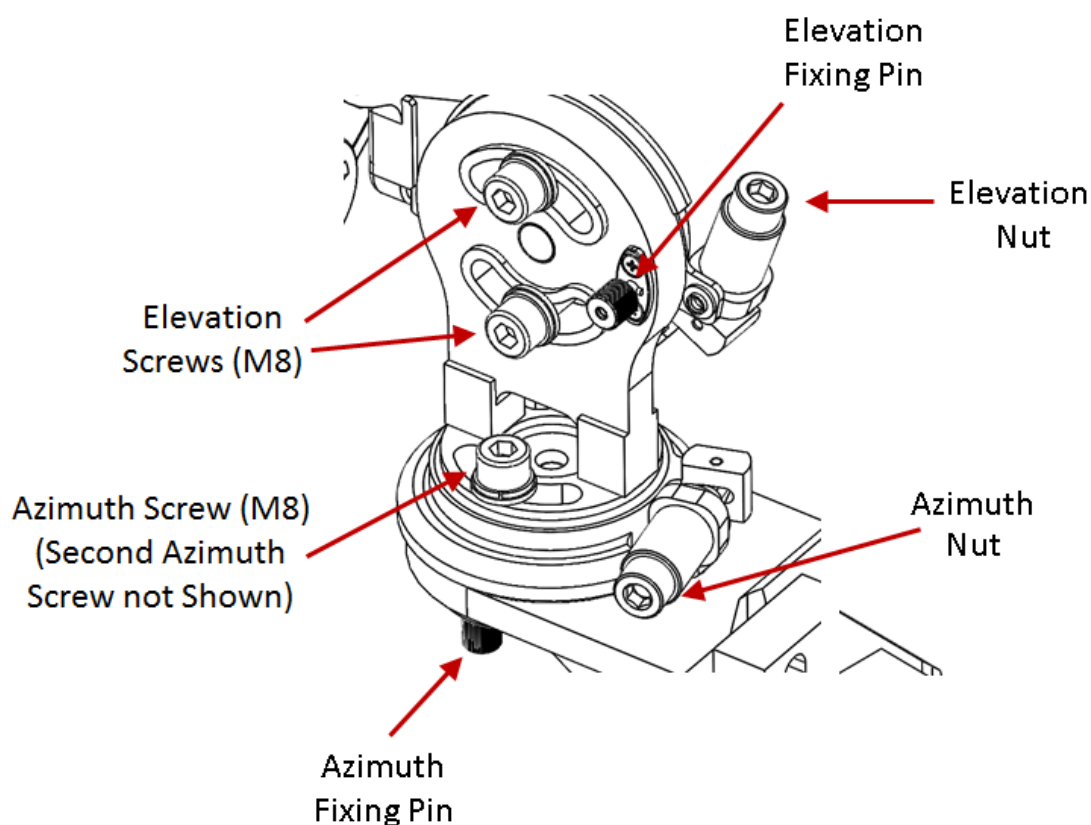

Figure 28: Installation and Alignment Device – Azimuth and Elevation Adjustment Tools
There are two M8 Elevation Screws and two M8 Azimuth screws, as shown in **Figure 28**. Before starting the alignment, make sure these screws are securely in place so they will not fall out during the procedure, but not too tight, so as to enable you to manually adjust the azimuth and elevation to the approximate position you want, before performing exact antenna alignment as described in the following sections.
You can easily adjust the azimuth and elevation of the antenna using a number of screws and nuts located on the installation and alignment device (**Figure 28**).
1. Loosen the Azimuth Fixing Pin (Figure 28) by pulling it gently out of its groove and rotating it counter-clockwise.
1. Turn the Azimuth Nut (Figure 28), either by hand or using a key wrench, for fine tuning of the azimuth. Each  $\frac{1}{4}$  turn is equal to an adjustment of  $0.25^\circ$ .